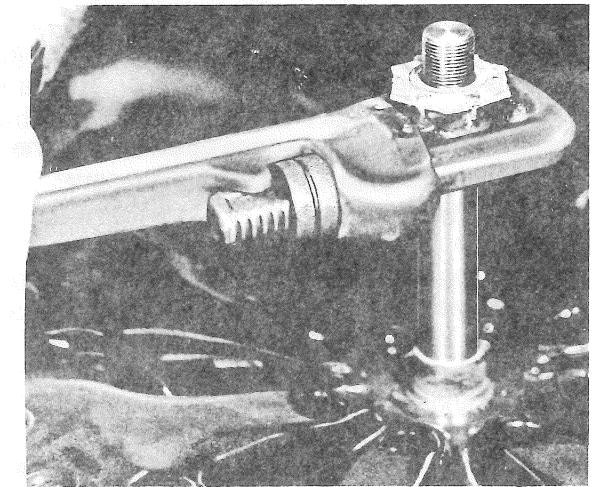

Figure 4-9 Cylinder Shaft Removal
4. The cylinder shaft may be removed as illustrated in Figure 4-9. This is a left hand thread so the shaft must be turned in a clockwise direction to remove. Replace the key in the cylinder shaft and position an old pulley hub over the shaft and key. This provides a surface to grab with a pipe wrench while turning the shaft out of the cylinder.